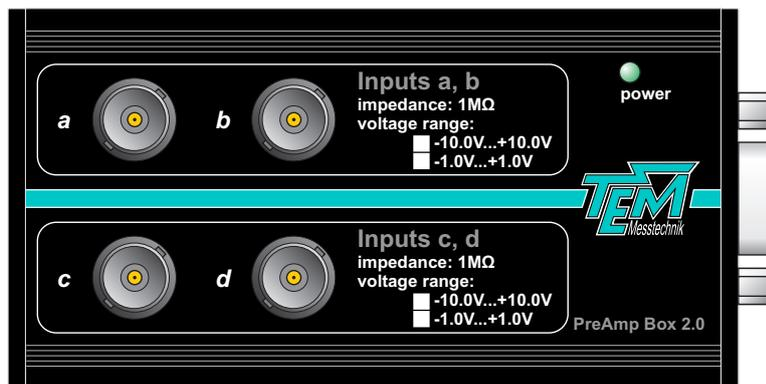

Figure 19: PreAmp Box for input signals
1. Connect the signal sources (e.g. Photo Diode Receiver) to the BNC connectors “input a...d” of the PreAmp Box shown in the Figure 19. The amplitude of the signals a and b should be in the range of one volt (-0.9...0.9V). The amplitude of the signals c and d should be in the range of ten volt (-9...9V). Signal amplitudes up to +/-15V will not damage the device. Unused inputs must be short-circuited to the shield or closed with a 50Ω resistor. All inputs have an input impedance of 1MΩ.